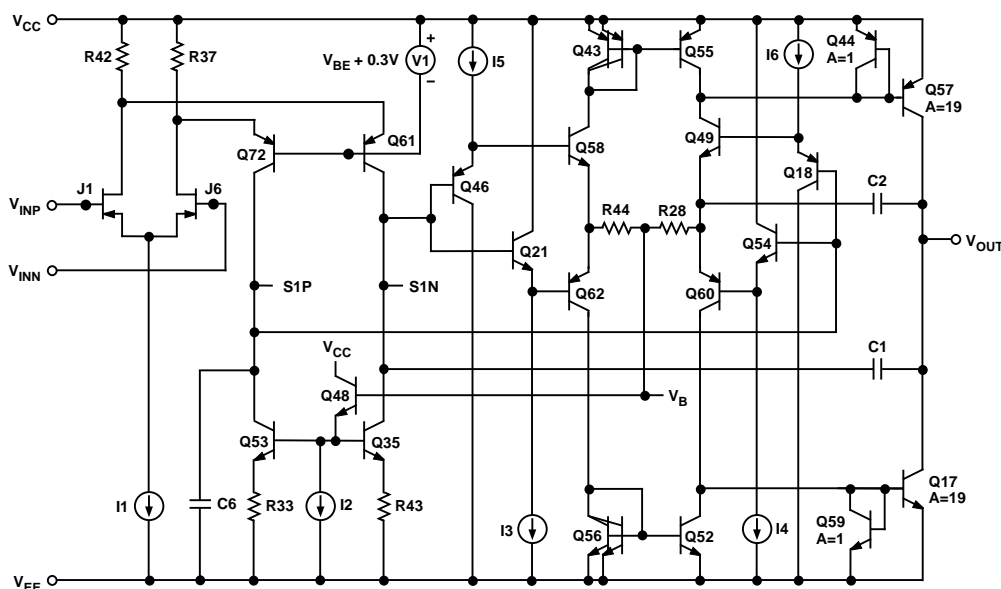

Figure 35. Simplified Schematic
This AD823 is fabricated on Analog Devices' proprietary complementary bipolar (CB) process that enables the construction of pnp and npn transistors with similar f_T s in the 600 MHz to 800 MHz region. In addition, the process also features N-channel JFETs, which are used in the input stage of the AD823. These process features allow the construction of high frequency, low distortion op amps with picoampere input currents. This design uses a differential-output input stage to maximize bandwidth and headroom (see Figure 35). The smaller signal swings required on the S1P, S1N outputs reduce the effect of nonlinear currents due to junction capacitances and improve the distortion performance. With this design harmonic distortion of better than $-91\text{ dB @ }20\text{ kHz}$ into $600\ \Omega$ with $V_{OUT} = 4\text{ V p-p}$ on a single 5 volt supply is achieved. The complementary common-emitter design of the output stage provides excellent load drive without the need for emitter followers, thereby improving the output range of the device considerably with respect to conventional op amps. The AD823 can drive 20 mA with the outputs within 0.6 V of the supply rails. The AD823 also offers outstanding precision for a high speed op amp. Input offset voltages